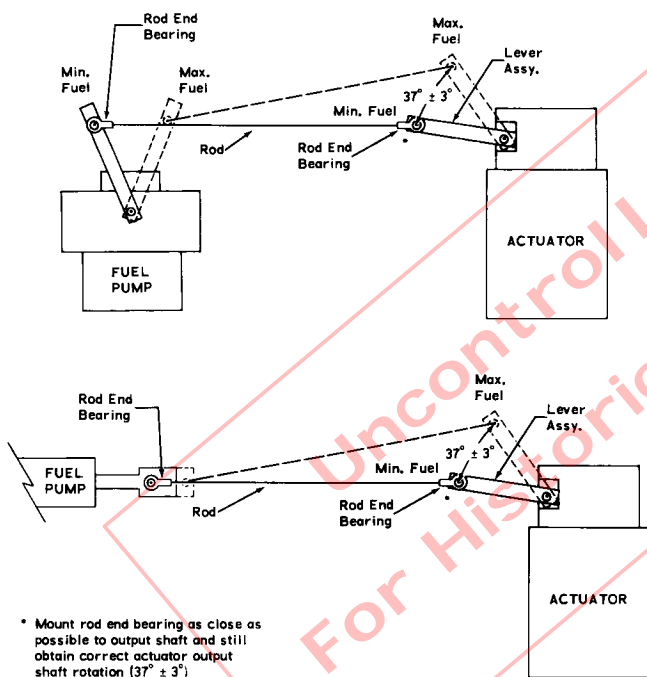

FIGURE 1 Typical Non-Linear Linkage Arrangements
**2. MOUNTING THE ACTUATOR AND LINKAGE.** Adjust the linkage rod to allow at least  $37^\circ$  rotation of the actuator output shaft for full travel of the fuel control. Use lock nuts on the linkage rod. See Figure 1 for typical linkage arrangements.